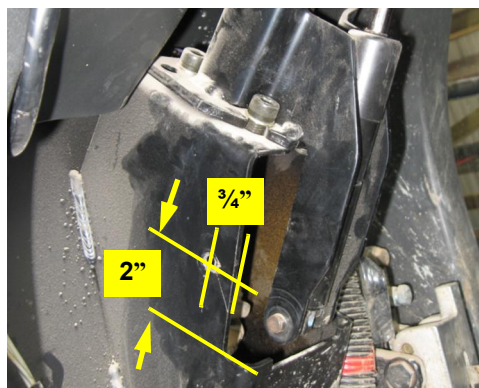

Figure 1a: Drilled steering column
- a. Drill a 1/4" hole in the left side of the steering column 2" up from the bottom edge of the opening in the column and 3/4" in from the edge of the opening (Figure 1a).